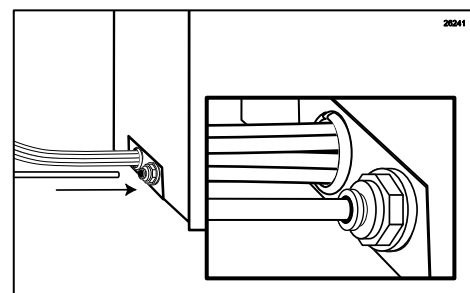

Figure 124
2. Insert one end of the sanitizer tube into the fitting located at the lower back of the cabinet. (See Figure 124.)